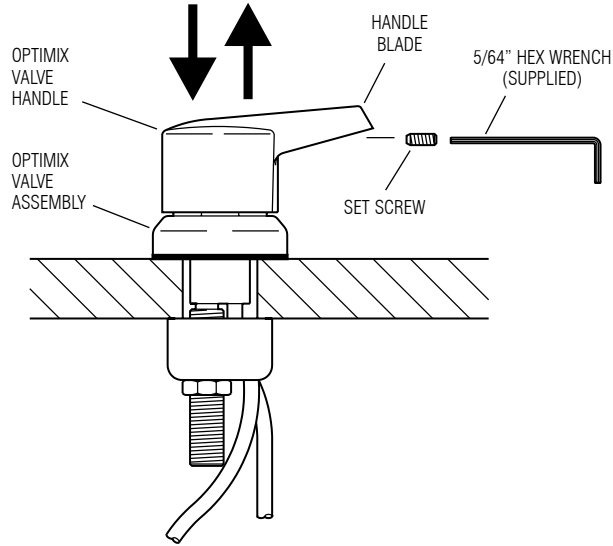

Figure 2
Step 4 — Install Optimix Valve Handle (Figure 2)
Step 1 — Remove Optimix Valve Handle (Figure 2)